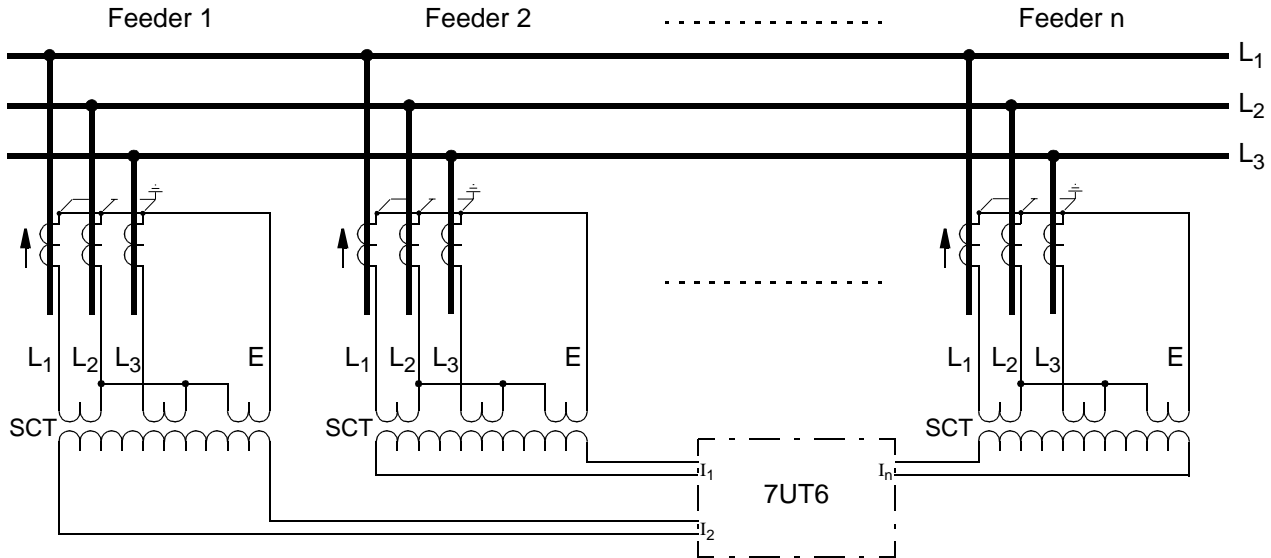

Figure 2-40 Busbar protection with connection via summation current transformers (SCT)
2. The phase currents of each feeder are summarized into a single-phase summation current (Figure 2-40). These currents are fed to one 7UT6.
One single device 7UT6 is sufficient for a busbar with up to 6 (7UT613/7UT633) or 12 (7UT635) feeders if the device is connected via summation current transformers. The phase currents of each feeder are converted into single-phase current by means of the summation CTs (Figure 2-40). Current summation is unsymmetrical; thus, different sensitivity is valid for different type of fault.